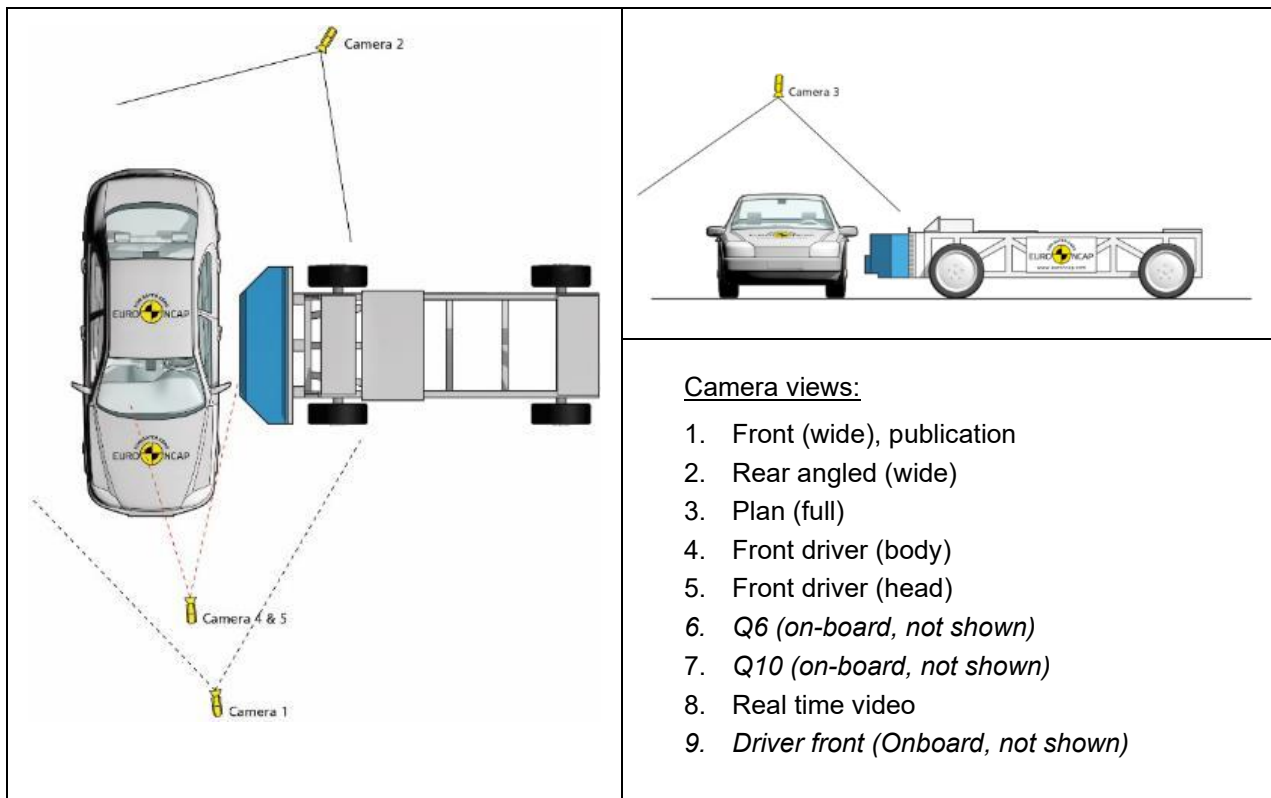

Figure 5: Locations for Cameras 1 to 5 (Side Moving Deformable Barrier).
A minimum of 5 cameras should be installed around the test vehicle, positioned as indicated in Figure 5 below. Two (2) additional on-board cameras to assess child dummy head containment are to be used and also one real time camera. Where required there will be two additional onboard cameras for the driver and passenger front and rear views.